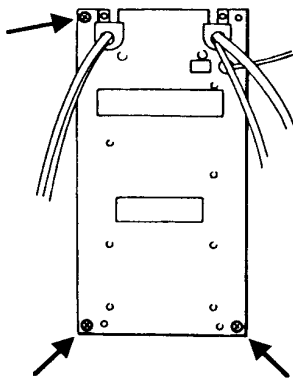

Fig. 6
- 8) Remove the rest of 3 screws on the plate. Take off the plate. (See Fig. 6)